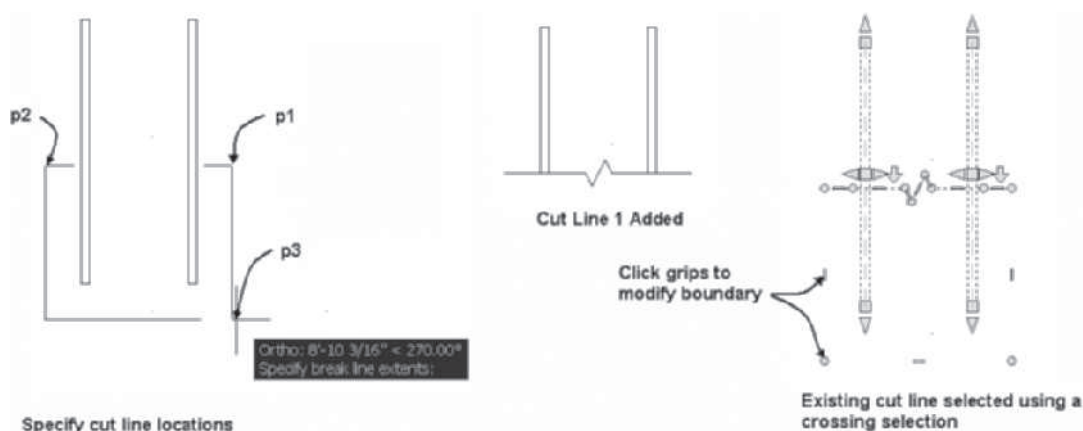

FIGURE 11.28 Placing a cut line
Straight cut lines are placed in the drawing by selecting **Cut Line (1)** from the Annotation tool palette (refer to Table 11.16). When you select **Cut Line (1)**, you are prompted to select the start and end of the straight cut line. After specifying the end-points of the cut line, you are prompted to select the break line extents, which specify the content to mask as shown in Figure 11.28. The symbol is not an annotative block and the size of the Z portion is scaled by the value of the Annotation Scale displayed in the Drawing Window status bar.
The following workspace sequence trimmed the walls shown in Figure 11.28 when the Cut Line (1) tool was applied:
Specify first point of break line: (Select a point near p1 as shown at the left in Figure 11.28.)
Specify second point of break line: (Select a point near p2 as shown at the left in Figure 11.28.)
Specify break line extents: (Select a point near p3 as shown at the left in Figure 11.28.)
(Walls are trimmed as shown at the center in Figure 11.28.)
After placing the break you can select the cut line using a crossing selection as shown at the right in Figure 11.28 to display its grips and modify the cut line and contents of the break. Choose More Annotation Tools to access additional break and cut lines from the Break Marks category of the Documentation Tool Catalog – Imperial and the Documentation Tool Catalog – Metric catalogs of the **Content Browser**.